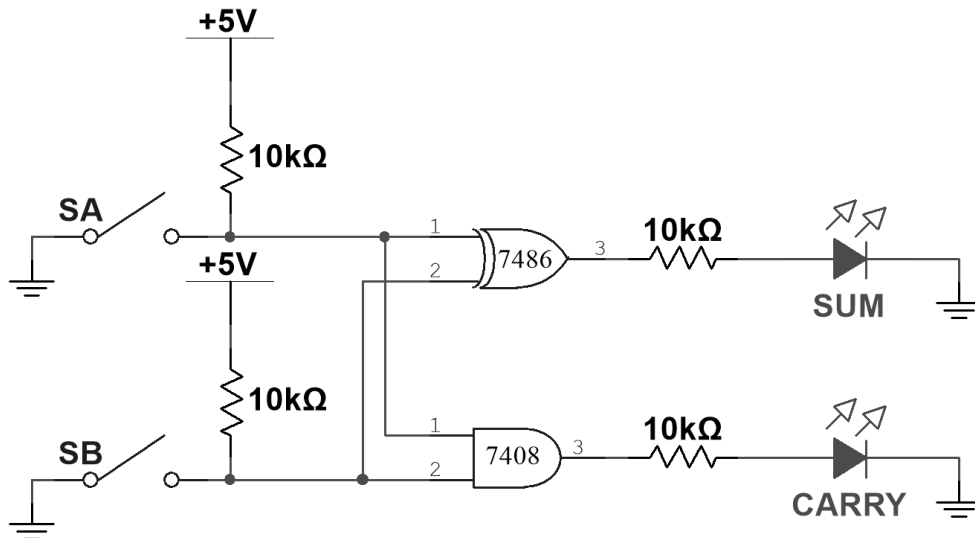

Figure 2.5. Experimental Half Adder
1. Connect the *half-adder* circuit (figure 2.5)